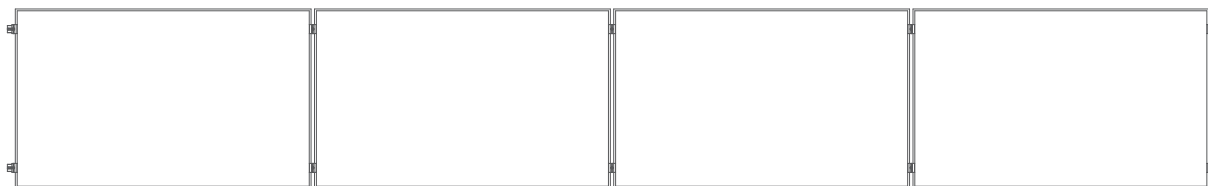
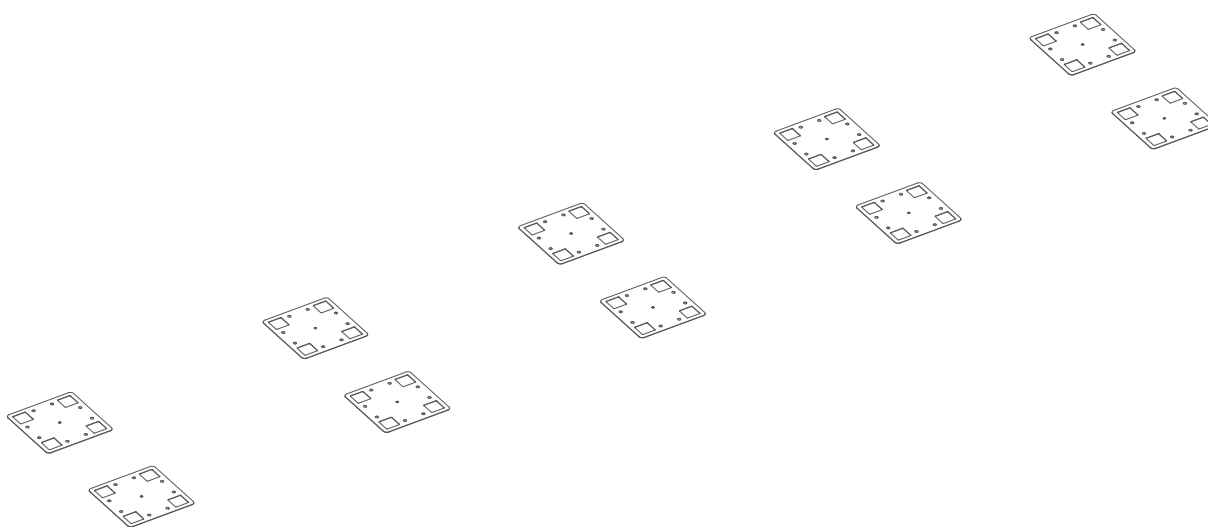

Fig. 1: Plan showing the arrangement of the modules.
Fig. 2: Arrangement of the fastening elements.
- 1 Before starting the assembly, the plan for the arrangement of the modules (Fig. 1) and the fastening elements (Fig. 2) should be determined. The method of fastening the mounting structure on the roof surface depends on its type and is selected individually.